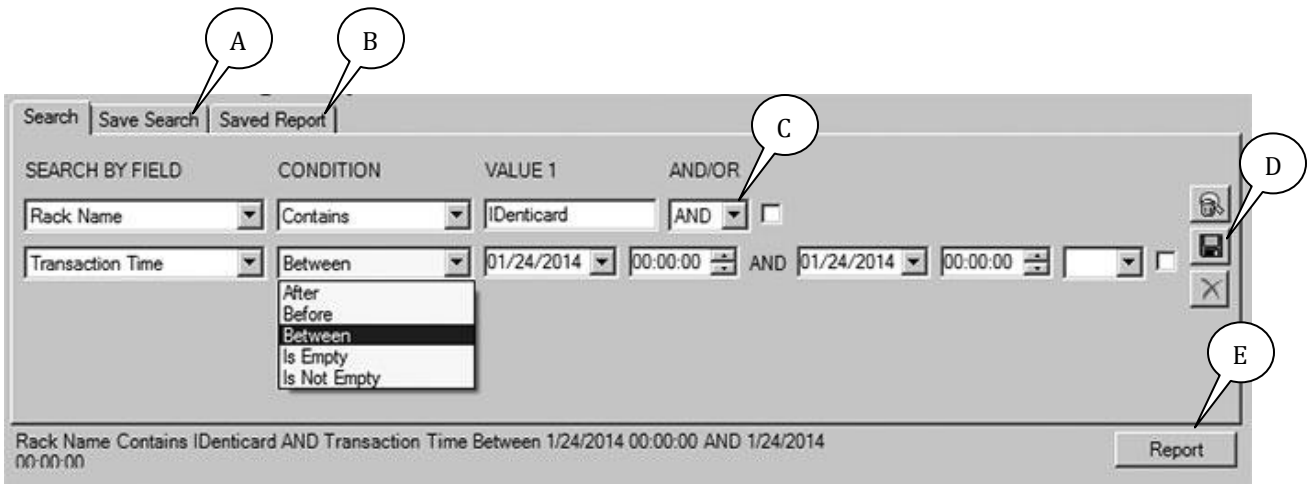
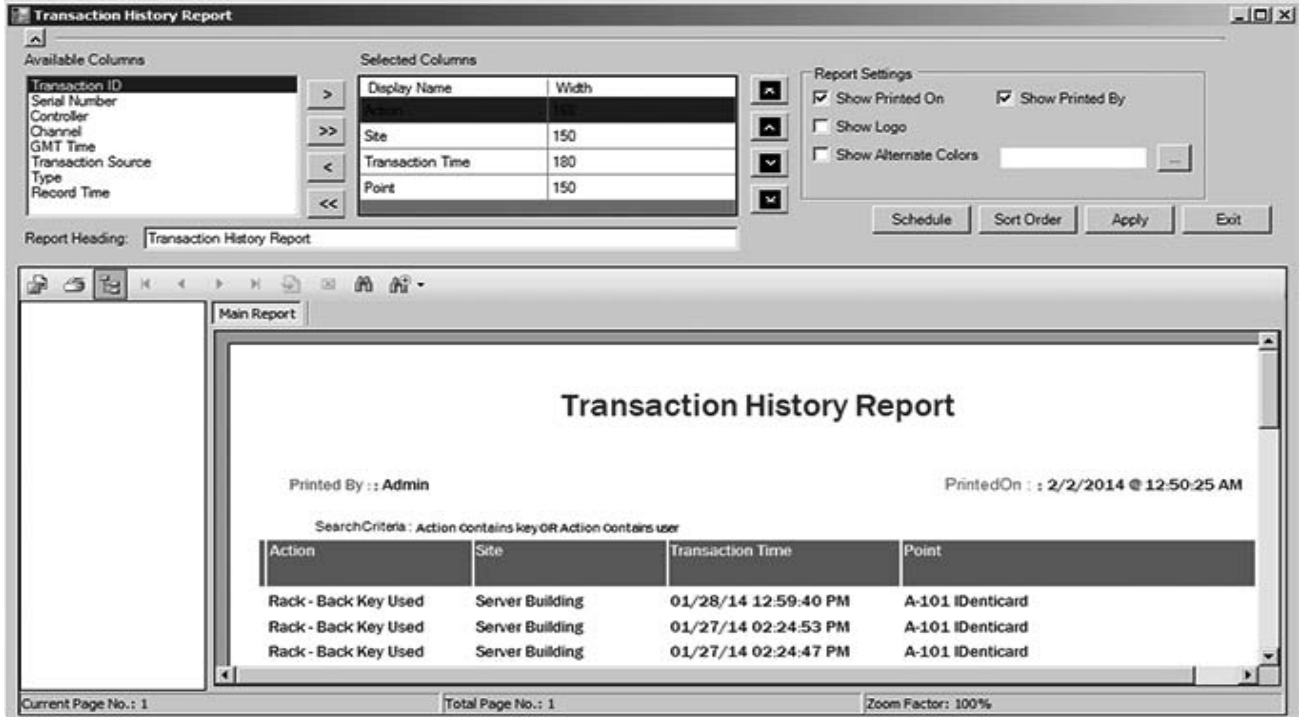

Figure 4.2
Figure 4.3.1
The most common Rack Armor reports are found under the *Cardholder* and *Transactions* categories, shown in Figure 4.1. These reports can be scheduled to send email results automatically on a specified schedule, see section 4.5 Scheduled Reports. Click on a report type to display the report setup window, Figure 4.2.
Figure 4.2 shows an example report setup window. Cardholder and transaction reports provide filters for finding specific information by one or more criteria using AND/OR (C). Filtering a report is not required. Search filters can be saved (D). Retrieve saved filters (A), and saved report layouts (B). Filters are saved *per user login*. Hit the "Report" button (E) to run the report.
Audit what happened at which racks, when and by whom or what. Results can include: when keys were used; when system users unlocked cabinets from the software; when cabinet doors were secured or unsecured. Report filters are constructed like the other reports, see Figure 4.2. The History Transaction report can also be customized, as shown in Figure 4.1.1. For an example transaction report, see Figure 4.3.1.
Scheduled reports require that at least one save *Report Layout* exist for the type of report to be scheduled, see Figure 4.2 (B). The option to save a report layout is provided when applying changes to report results, see Figure 4.1.1 (F). If a "Save Not Successful" error is displayed, shorten the default name.
Manually run a report first, see Figure 4.2 (E). While viewing the report results window, locate the "Schedule" button. This launches the *Scheduled Report Wizard* to configure this report (layout and filter) to run on a schedule, Figure 4.5.1.